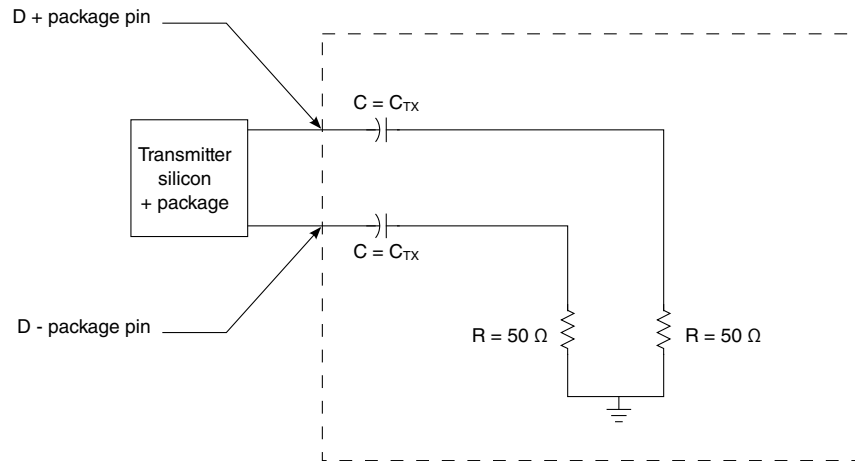

Figure 40. Test/measurement load
1. Specified at the measurement point into a timing and voltage test load as shown in Figure 40 and measured over any 250 consecutive transmitter UIs.
Notes: <ol style="list-style-type: none"> Specified at the measurement point and measured over any 250 consecutive UIs. The test load in Figure 40 must be used as the receiver device when taking measurements. If the clocks to the receiver and transmitter are not derived from the same reference clock, the transmitter UI recovered from 3500 consecutive UI must be used as a reference for the eye diagram. A $T_{RX-EYE} = 0.40$ UI provides for a total sum of 0.60 UI deterministic and random jitter budget for the transmitter and interconnect collected any 250 consecutive UIs. The $T_{RX-EYE-MEDIAN-to-MAX-JITTER}$ specification ensures a jitter distribution in which the median and the maximum deviation from the median is less than half of the total. UI jitter budget collected over any 250 consecutive transmitter UIs. It must be noted that the median is not the same as the mean. The jitter median describes the point in time where the number of jitter points on either side is approximately equal as opposed to the averaged time value. If the clocks to the receiver and transmitter are not derived from the same reference clock, the transmitter UI recovered from 3500 consecutive UI must be used as the reference for the eye diagram. It is recommended that the recovered transmitter UI is calculated using all edges in the 3500 consecutive UI interval with a fit algorithm using a minimization merit function. Least squares and median deviation fits have worked well with experimental and simulated data. For recommended operating conditions, see Table 3. The $T_{RX-EYE-MEDIAN-to-MAX-JITTER}$ for common and separated reference clock architecture. If spread spectrum clocking is desired, common clock receiver architecture must be used. The AC specifications do not include Refclk jitter.